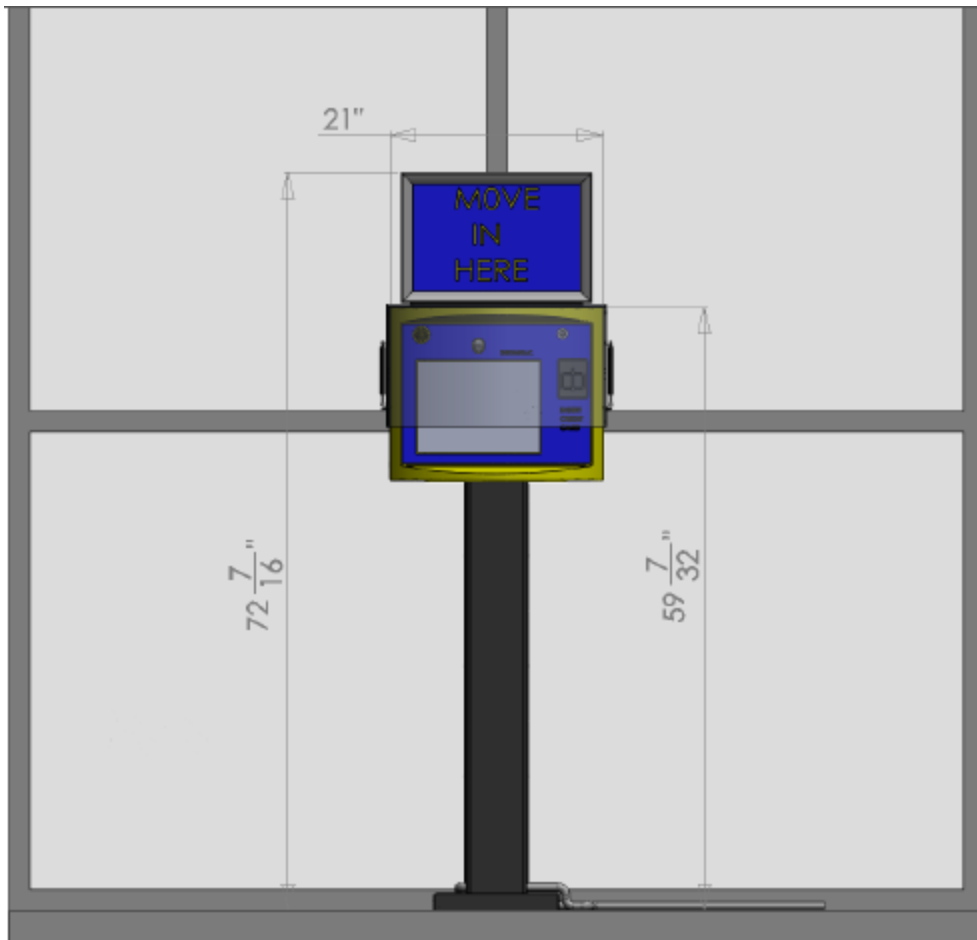

Figure 10: Pedestal Mount (Height Dimensions)
- Figure 10: Pedestal Mount (Height Dimensions)19